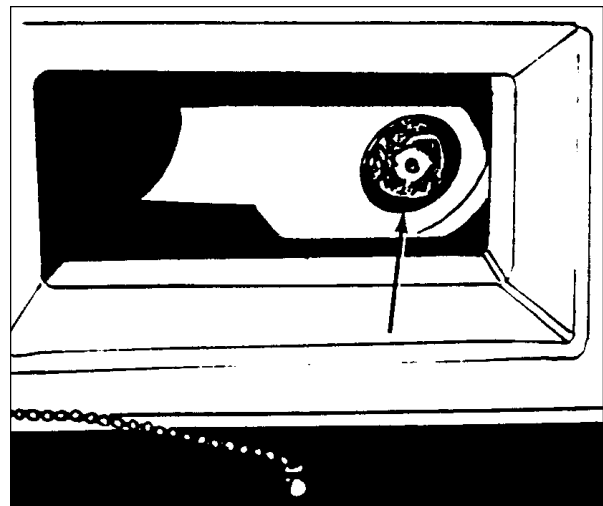

Figure 8
11. Inspect and clean the filter screen in the bottom of the solution tank. See figure 8. To remove the filter, turn the filter to the left. To install the filter, turn the filter to the right.